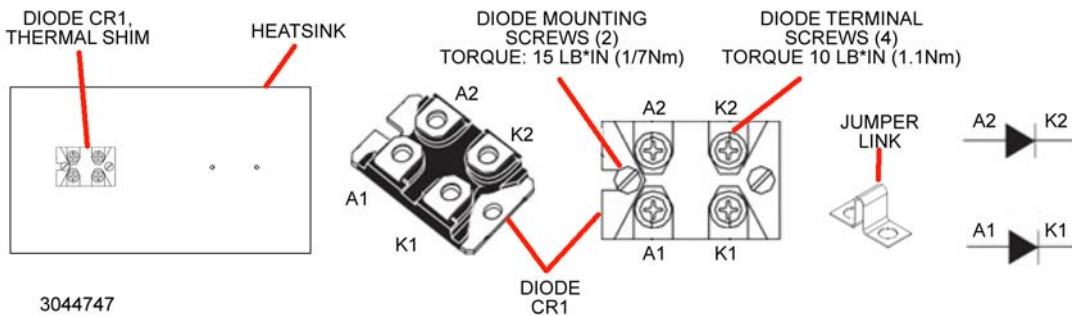

FIGURE 1. KIT 219-0669 COMPONENTS
Material supplied is listed in Table 1 and shown in Figure 1,.
1. Mount the diode over the thermal shim and secure to the heatsink using two diode mounting screws supplied (see Figure 1); torque to 15 lb*in (1.7Nm).